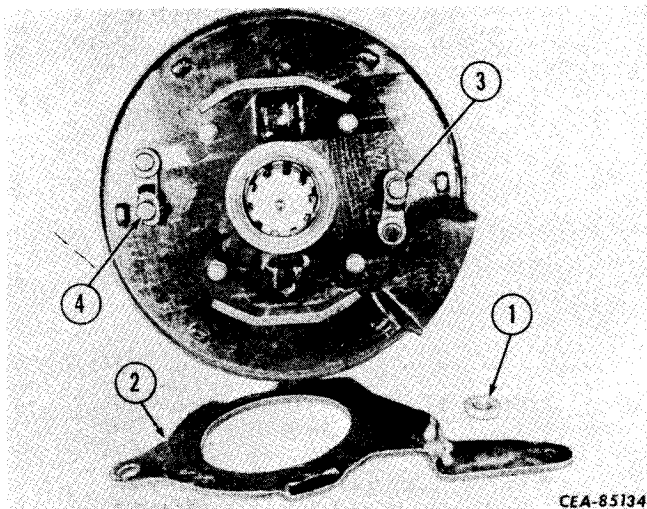

Figure 13-108
Place the roller (1, Fig. 13-108) on the pawl (3) on the backing plate. Install the operating cam lever (2) on the left pawl (3) and under the roller (1).